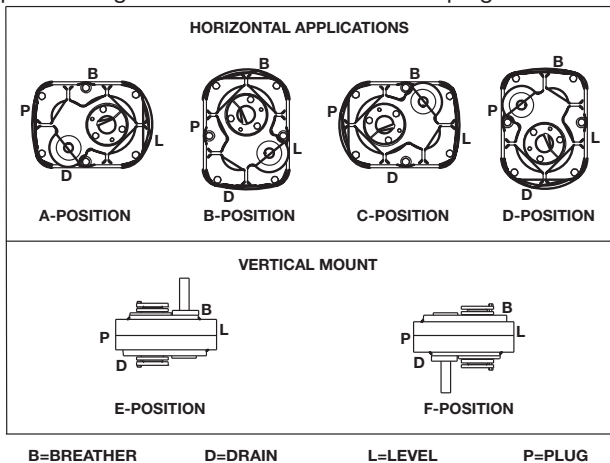

Figure 1 - Mounting Positions
2. Determine the mounting position of the reducer (Figure 1). Note that the reducer is supplied with either 4 or 7 plugs; 4 around the sides for horizontal installations and 1 on each face for vertical installations. These plugs must be arranged relative to the mounting positions as follows:
The running position of the reducer in a horizontal application is not limited to the four positions shown in Figure 1. However, if running position is over 20° either way in position “B” and “D”, or 5° either way in position “A” or “C,” the oil level plug cannot be safely used to check the oil level, unless during the checking the torque arm is disconnected and the reducer is swung to within 20° for position “B” or “D” or 5° for position “A” or “C” of the positions shown in Figure 1. Because of the many possible positions of the reducer, it may be necessary or desirable to make special adaptations using the lubrication fitting holes furnished along with other standard pipe fittings, stand pipes and oil level gauges as required.
- ① Oil quantity is approximate. Service with lubricant until oil runs out of oil level hole.
- ② Refer to Figure 1 for mounting positions.
- ③ US measure: 1 quart = 32 fluid ounces = .94646 liters.
- ④ Below 15 RPM output speed, oil level must be adjusted to reach the highest oil level plug (P). If reducer position is to vary from those shown in Figure 1, either more or less oil may be required. Consult Baldor Electric Company, Dodge Engineering, Greenville, SC.